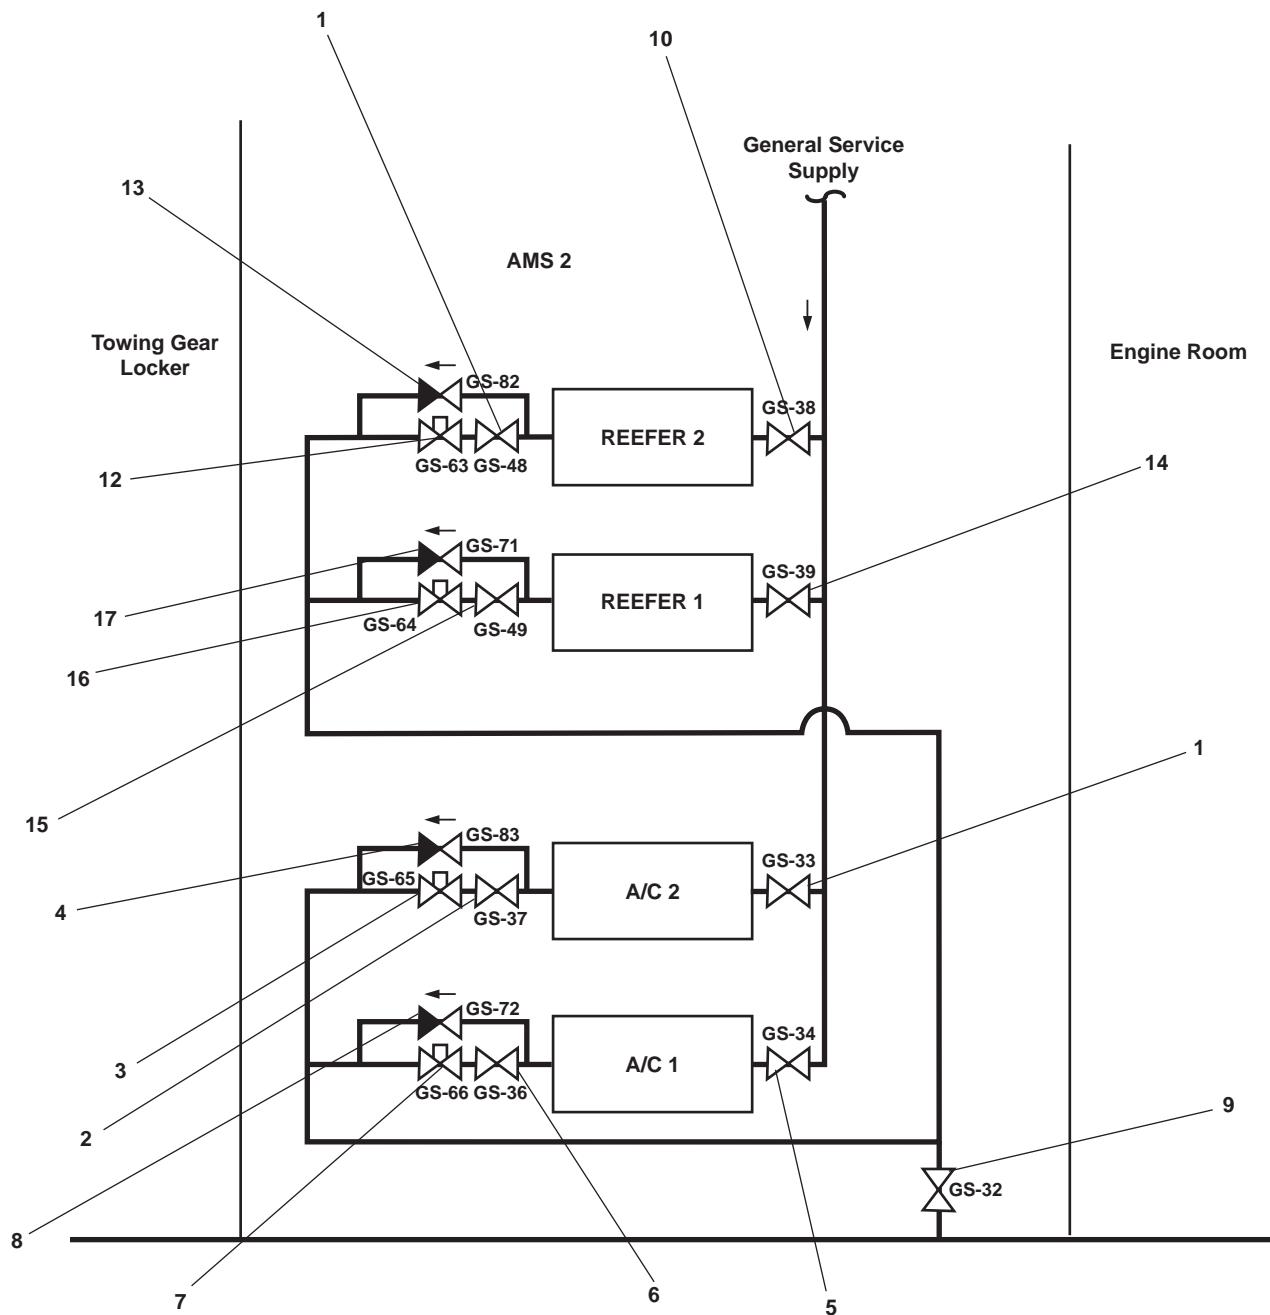

Figure 18. Condenser Cooling Water Valves
- (1) OPEN GS-33, A/C COND No. 1 SPLY (figure 18, item 1), air conditioning condenser 1 supply.
- (2) OPEN GS-36, WTR RGLTR COV (figure 18, item 2), water regulator inlet.
- (3) Verify that GS-65 (figure 18, item 3), water regulator, is OPEN.
- (4) Verify that GS-83, BYP WTR RGLTR (figure 18, item 4), water regulator bypass, is CLOSED.
- (1) OPEN GS- 34, A/C COND No. 2 SPLY (figure 18, item 5), air conditioning condenser 2 supply.
- (2) OPEN GS-37, WTR RGLTR COV(figure 18, item 6), water regulator inlet.
- (3) Verify that GS-66 (figure 18, item 7), water regulator, is OPEN.
- (4) Verify that GS-72, BYP WTR RGLTR (figure 18, item 8), water regulator bypass, is CLOSED.
- c. Verify that GS-32, GS OVBD DISCH (figure 18, item 9), general service overboard discharge, is OPEN.
- (1) GS-33, A/C COND No. 1 SPLY (figure 18, item 1), air conditioning condenser 1 supply
- (2) GS-36, WTR RGLTR COV (figure 18, item 2), water regulator inlet
- (1) GS- 34, A/C COND No. 2 SPLY (figure 18, item 5), air conditioning condenser 2 supply
- (2) GS-37, WTR RGLTR COV (figure 18, item 6), water regulator inlet
- (2) OPEN GS-36, WTR COV (figure 18, item 2), water regulator inlet.
- (1) OPEN GS- 34 A/C COND No. 2 SPLY (figure 18, item 5), air conditioning condenser 2 supply.
- (2) OPEN GS-37 WTR RGLTR COV (figure 18, item 6), water regulator inlet.